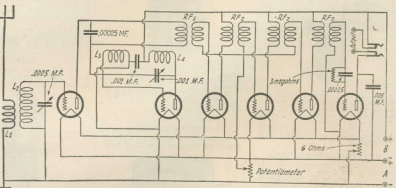

Fig. 2
- Fig. 2 is a complete diagram of connections of the receiver. The entire outfit may be mounted in a cabinet 7x24 inches, and is composed of the following parts: